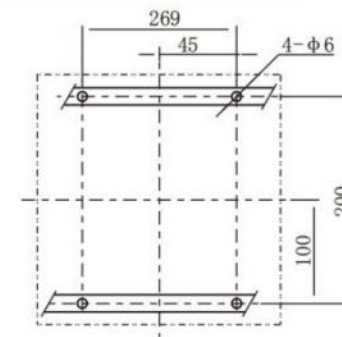

Figure 5. WCM6-1250, 1600
7.1 The dimensions for WCM6-1250,1600 are shown in Figure 5